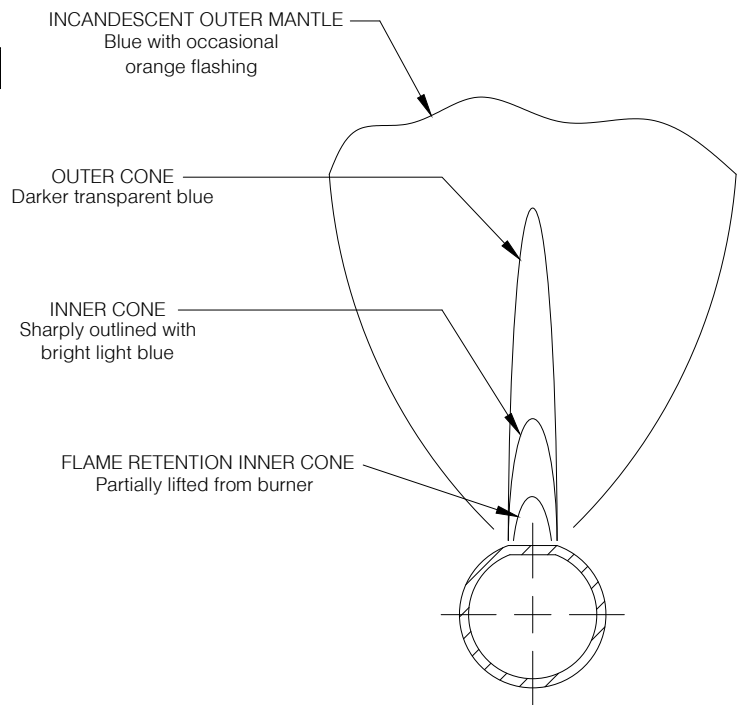

Figure 7-3: Main Burner Flame
3. Check main burner flames. See Figure 7-3. Flame should have clearly defined inner cones with no yellow tipping. Orange-yellow streaks caused by dust should not be confused with true yellow tipping.